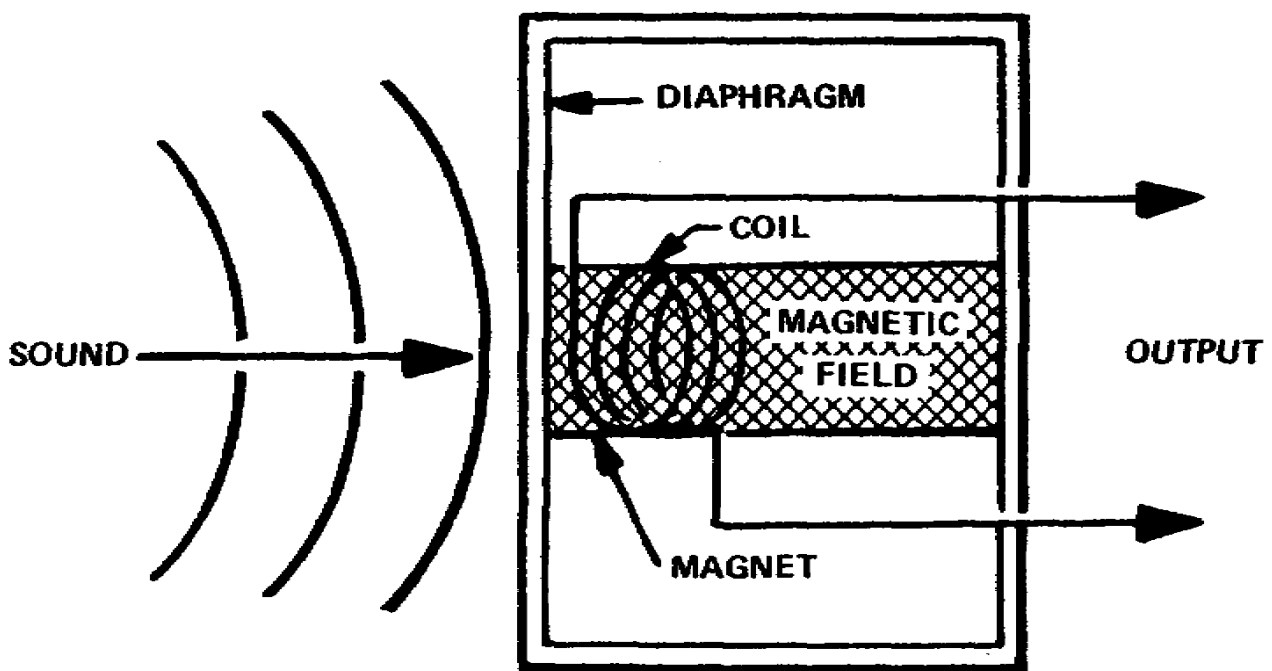

Figure 2-27. Dynamic microphone
(1) The dynamic microphone favors high frequencies over low. In the studio, this aids the speaker with a deep or bass voice to achieve a higher pitch. Due to its sensitivity to higher frequencies, it accentuates sibilance in a person's voice. (Some people produce a hissing sound while pronouncing s's and ch's. This hissing sound is sibilance.)
(2) Dynamic Microphone Characteristics. This microphone operates on the moving coil generator principle (fig 2-27). It uses a diaphragm and coil which move the field of a permanent magnet. Sound waves striking the diaphragm cause the coil to be moved. This movement in a magnetic field generates an output voltage.